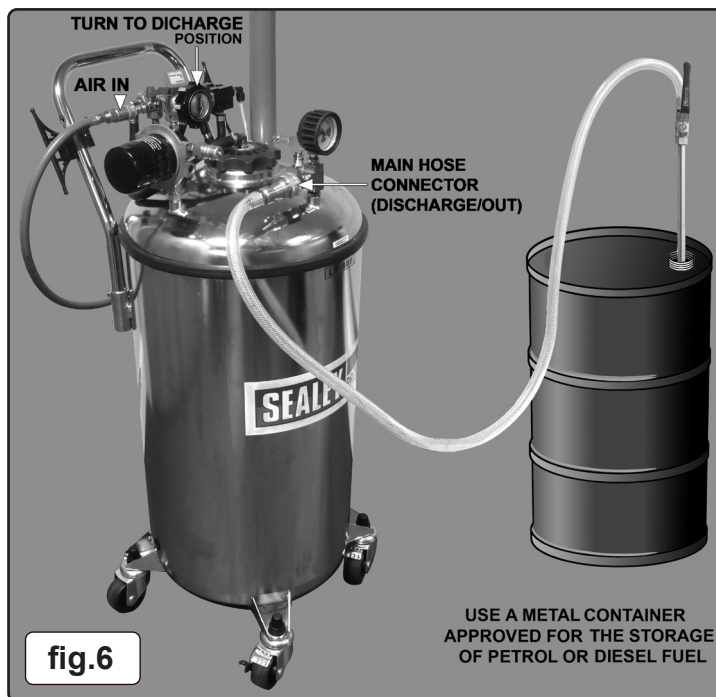

fig.6
- 4.12.1. Ensure that the female connector on the other end of the main hose is connected to the male inlet connector attached to the pressure gauge. See fig.6 and fig.3-3.